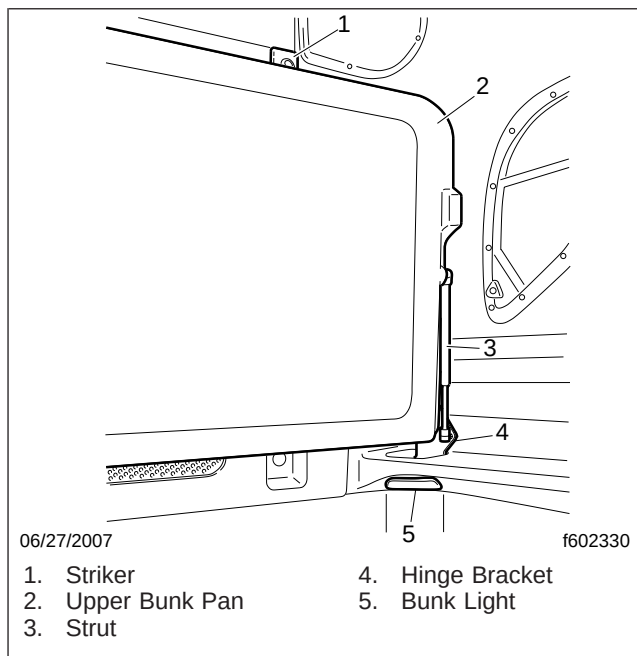

Fig. 1, Upper Bunk (shown folded up)
5. Remove the bunk lights (if so equipped) from the "halo" trim panel corners, as follows; see Fig. 1.